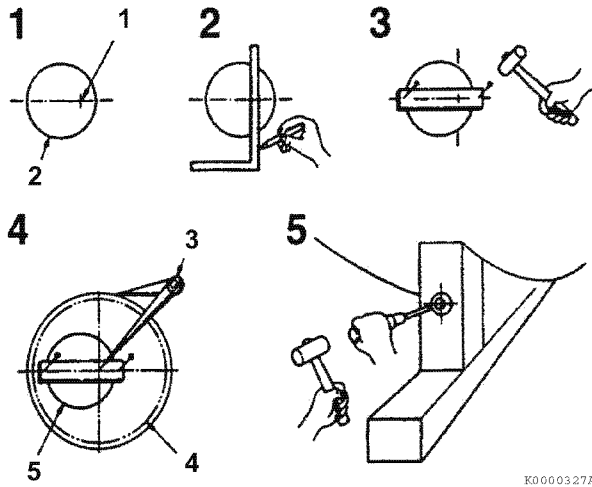

Figure 5-21
- Using the centering line as a reference, scribe a precise cutting mark on each side of the stern box for the stern tube hole (**Figure 5-21**).